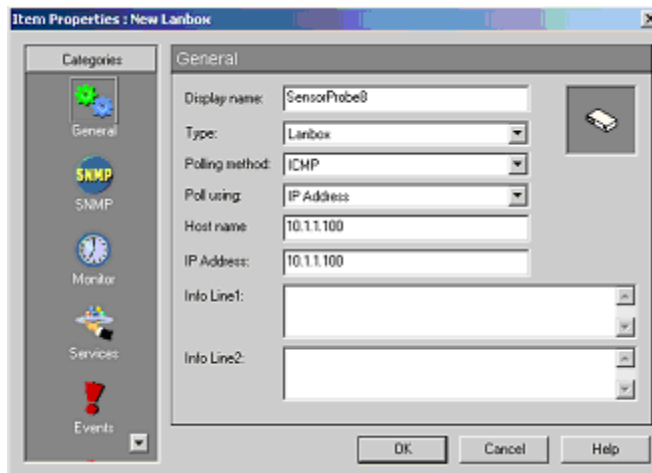

Figure 2 General Property page
- 3.2. On the left pane, select General (see Figure 2).
- 3.1. Double click the ServSensor V4/ServSensor Camera icon on the network map to open the item properties dialog box shown in Figure 2.